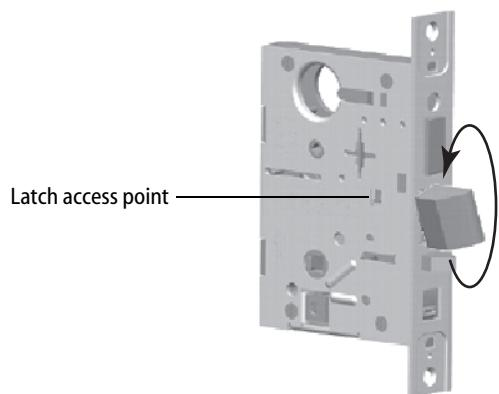

Figure 4 Rotating the latchbolt
- If you need to rotate the latchbolt, insert a flat blade screwdriver into the latch access point approximately 1/2" into the case and press to extend the latch out of the case. See Figure 4.